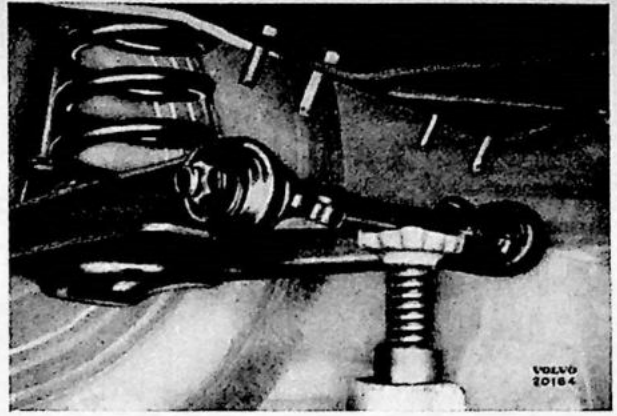

Fig. 16. Removing lower control arm.
Remove the lower control arm after having blocked up the front end of car in the usual way, by removing the wheel, disconnecting the stabilizer at its anchorage (11, fig. 4) in the control arm, and placing a jack under its inner anchorage in accordance with fig. 16. Loosen bolts (29, fig. 2) attaching the pivot shaft (28) to the cross member, lower the jack and remove the spring. Disconnect the control arm outer attachment from the steering knuckle support.